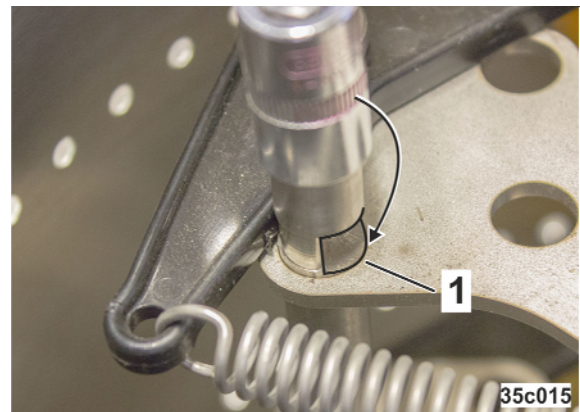

Fig. 286
3. The groove (Fig. 286/1) must be completely released from the actuation lever (Fig. 284/2), the relief pin is in parking position (hole covering rollers are tension-free)